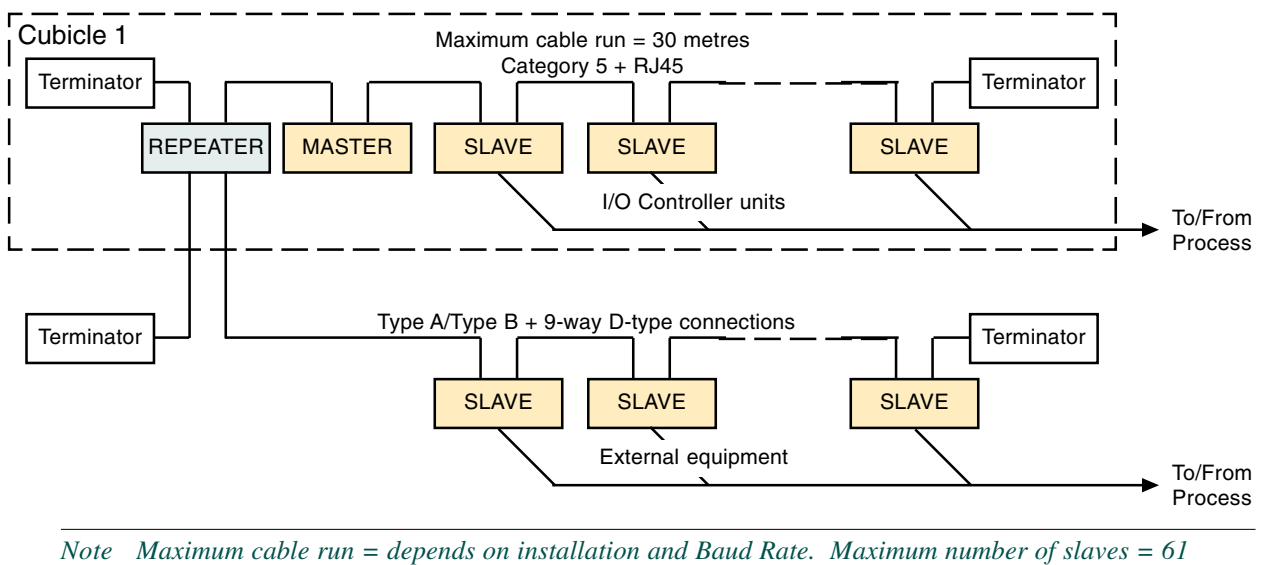

Figure 3.5.2c Single cubicle wiring with external equipment
*Note For interfacing with external Profibus networks, use 9-way D-type connectors, and a suitable repeater (figure 3.5.2c). See Installation in the appropriate instrument handbook.*